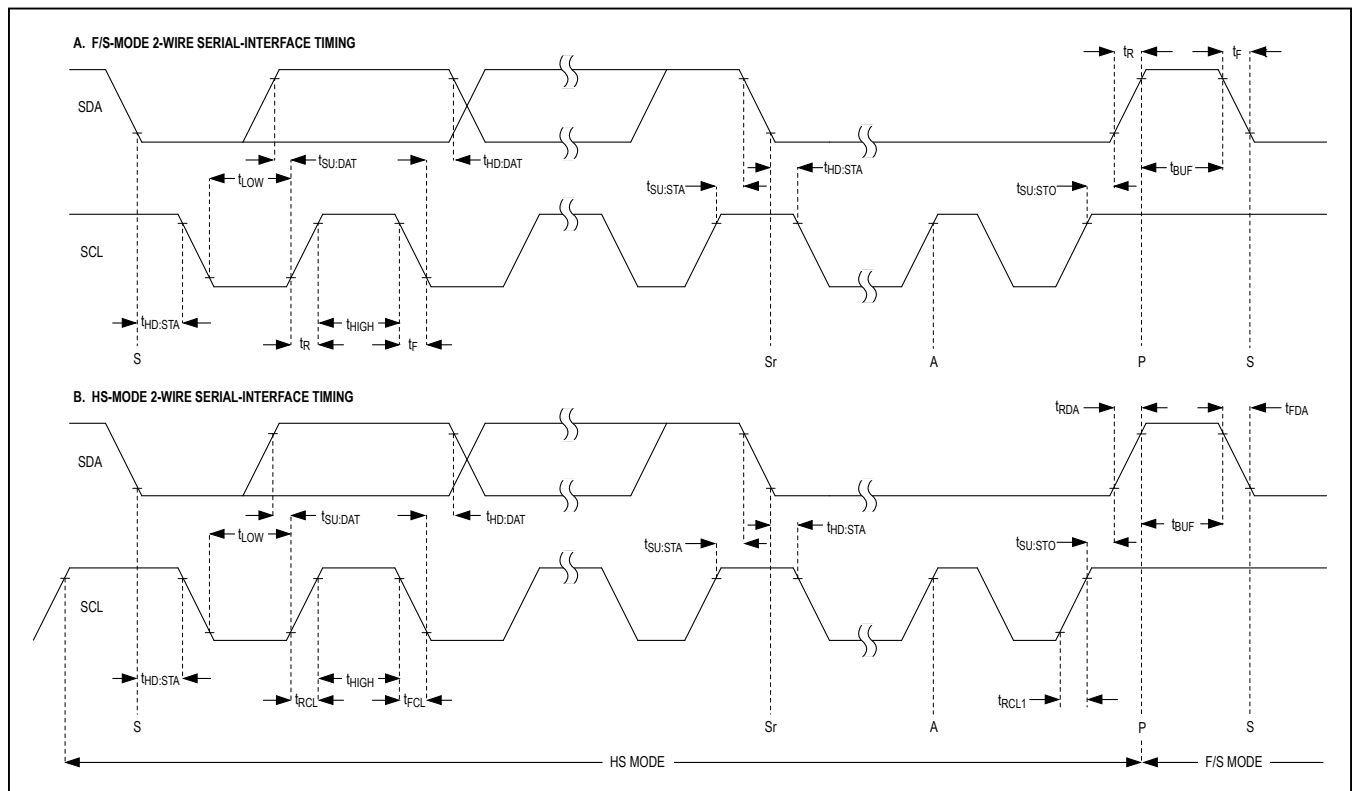

Figure 1. 2-Wire Serial-Interface Timing
Timing Characteristics (Figure 1)
Timing Characteristics (Figure 1) (continued)
- Note 11:** A master device must provide a data hold time for SDA (referred to V_{IL} of SCL) to bridge the undefined region of SCL's falling edge (see Figure 1).
up to 94.4ksps. Figure 1 shows the bus timing for the MAX11606–MAX11611’s 2-wire interface.